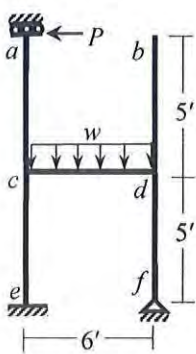

Fig.1
- Use the Energy Method to calculate the load (i) w needed to form beam mechanism, (ii) P needed to form the sidesway mechanism in the frames *abcdef* loaded as shown in **Fig.1**